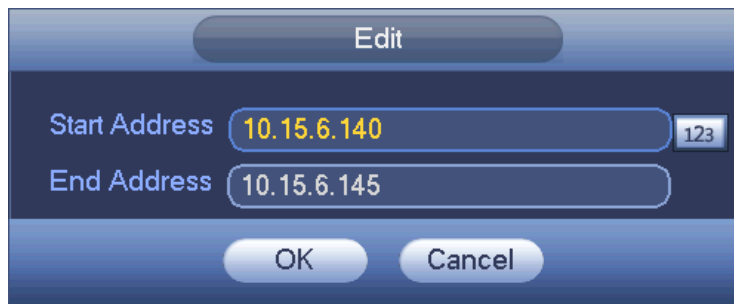

Figure 4-110
- Edit: Click it to edit start address and end address. See Figure 4-110. System can check the IP address validity after the edit operation and implement IPv6 optimization.